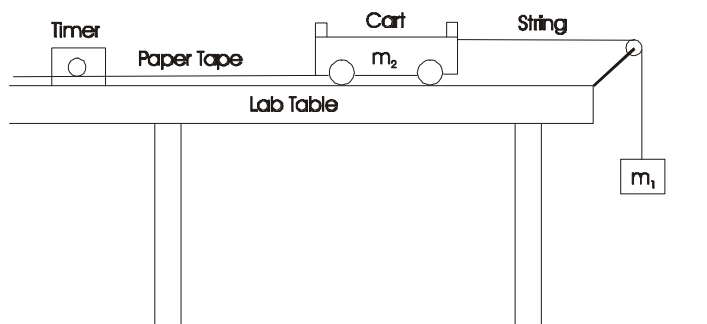

Figure 2.1 – Experimental arrangement.
Theory: The set-up for the experiment is shown schematically in Fig. 2-1. Obviously the acceleration of the two masses depends on the weight of the mass m_1 , which in turn depends on the value of g . Mass m_2 is a cart, able to roll on the lab table with a small but finite friction. m_2 is connected to the hanging mass m_1 by a light (negligible mass) string passing over a pulley. When the system is released from rest, m_1 will accelerate downward and m_2 will accelerate forward with an acceleration of the same magnitude
Setup: The experimental setup is shown schematically in Figure 2-1 and has been described in previous section.
- Set up the equipment as shown in Figure 2-1. Adjust for at least 65 cm of travel for the cart and the hanging mass. Fasten the tape to the bottom of the cart with a thumb tack or masking tape. Run the tape through the timer. **To obtain good quality data you must observe the following precautions:**